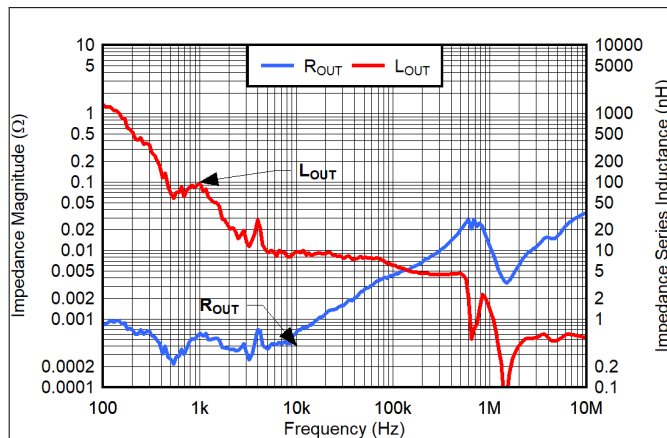
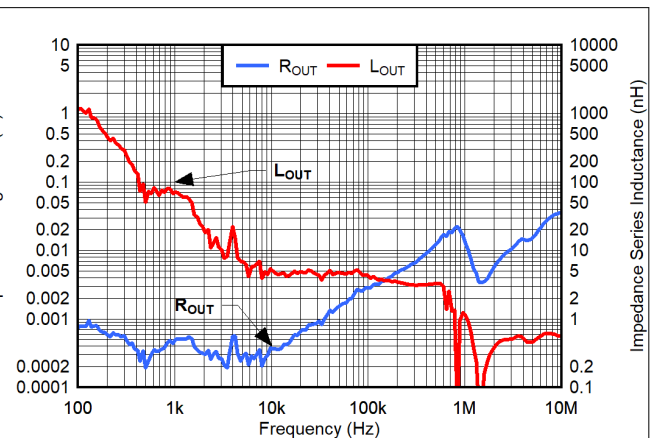
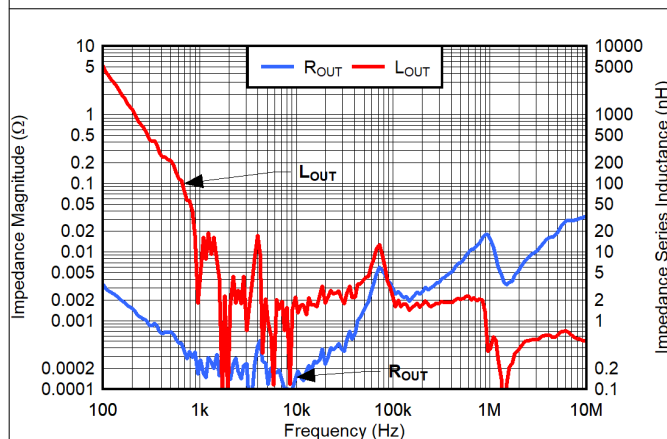

Figure 7-14. V_{IN} = 5.5V, V_{OUT} = 5V, V_{BIAS} = 8V, CP_EN = 0, I_{OUT} = 200mA
Figure 7-15. V_{IN} = 5.5V, V_{OUT} = 5V, V_{BIAS} = 8V, CP_EN = 0, I_{OUT} = 500mA
Figure 7-16. V_{IN} = 5.5V, V_{OUT} = 5V, V_{BIAS} = 8V, CP_EN = 0, I_{OUT} = 5A
- Figure 7-14, Figure 7-15, and Figure 7-16 are provided for the 5.5V_{IN}, 5V_{OUT}, and I_{OUT} = 200mA, 500mA, and 5A conditions